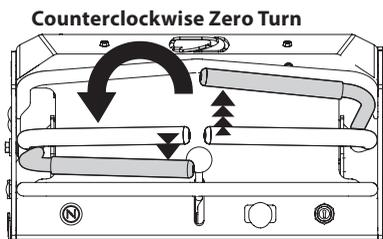

Figure 15
2. To turn clockwise, move the left drive control lever forward while simultaneously moving the right drive control lever rearward (Figure 15).
3. To turn counterclockwise, move the right drive control lever forward while simultaneously moving the left drive control lever rearward (Figure 15).